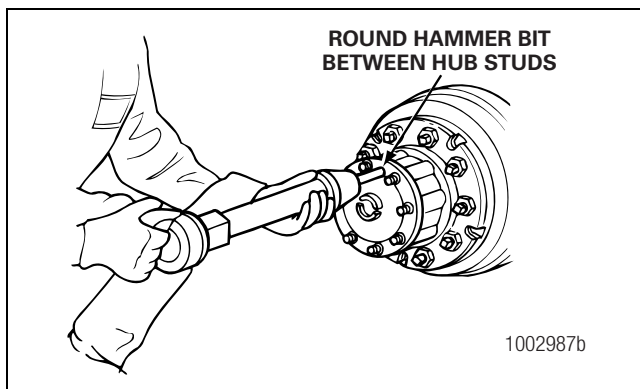

Figure 3.3
2. Place the round hammer bit against the axle shaft or flange between the hub studs. Operate the air hammer at alternate locations between the studs to loosen the tapered dowels and axle shaft from the hub. Figure 3.3.